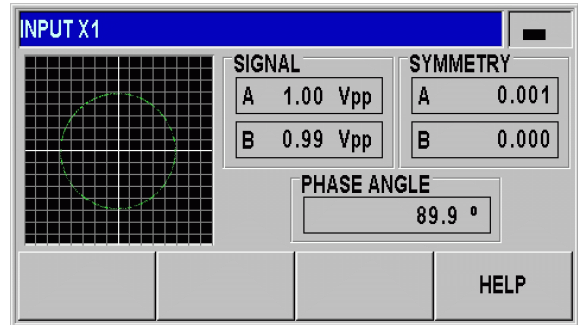

Fig. II.46 Encoder test: 1 Vpp interface
- ▶ As the encoder is moved, you will see the signals of the A and B channels as Lissajous figure (see Fig. II.46), as well as the amplitude, symmetry and phase offset values.